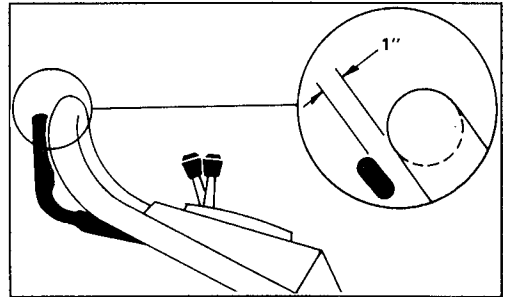

Figure 18
3. CHECK ADJUSTMENT — Mower will begin to self-propel when control bar is about 1-inch from handle (Fig. 18).